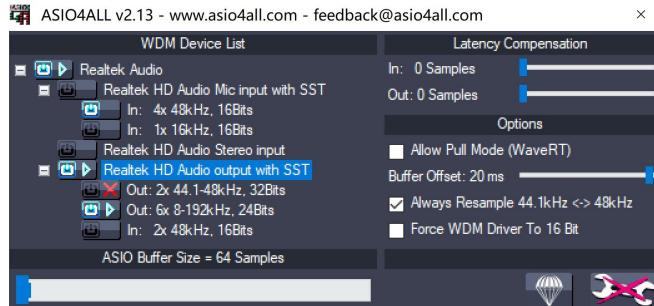

Figure 1.7: ASIO configuration
2. After it successfully installed, go to its root dictionary and click to open the .exe file and configure the ASIO4ALL as Figure 1.7 shows.